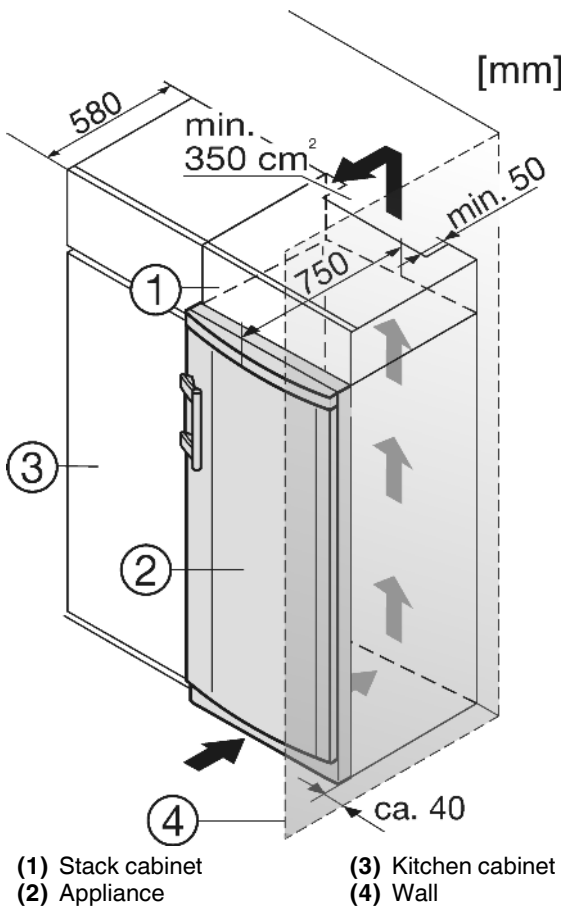

Fig. 8
If the appliance is installed with the hinges next to a wall Fig. 8 (4), the distance between appliance and wall has to be at least 40 mm. This corresponds to the projection of the handle when the door is open.